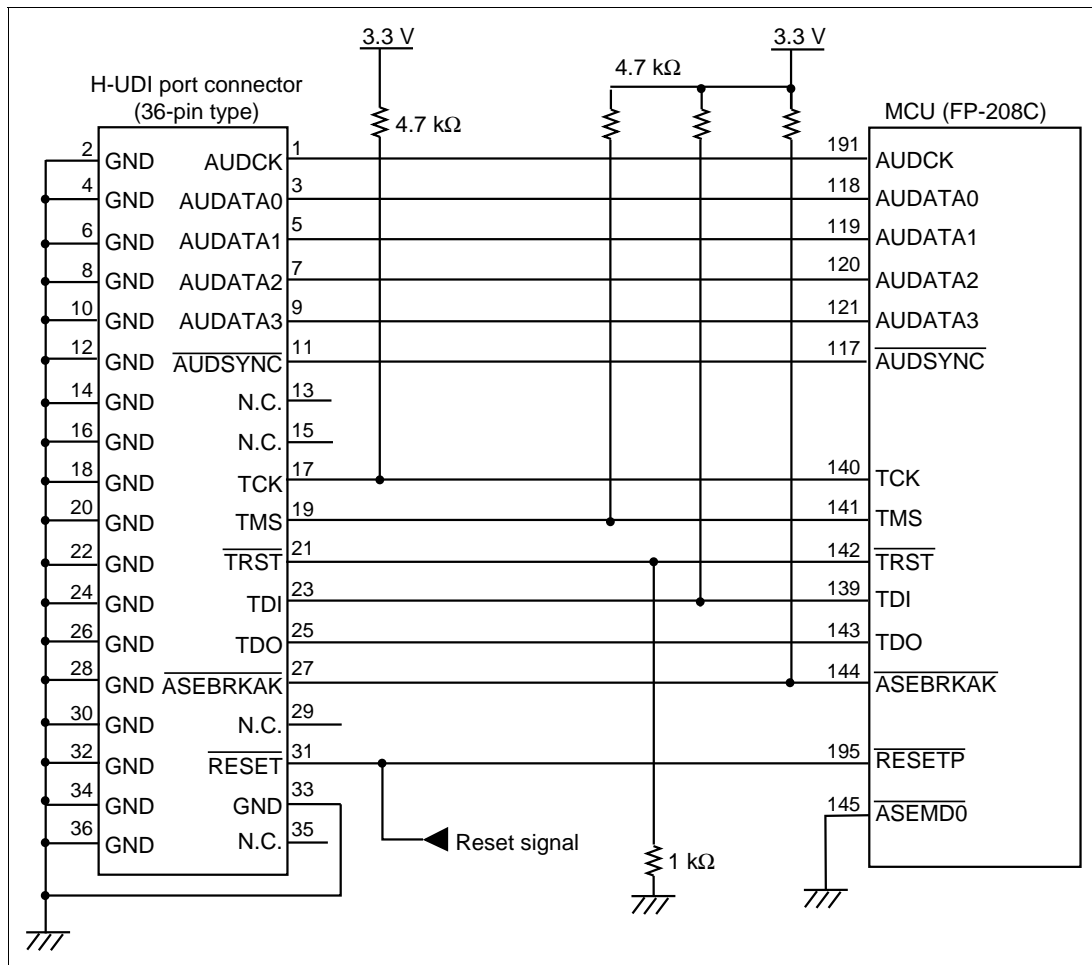

Figure 4.1 Recommended Circuit for Connection between the H-UDI Port Connector and MCU (36-Pin Type)
Figure 4.1 shows a recommended circuit between the H-UDI port connector (36 pins) and the MCU.
- (1) When the emulator is used: /ASEMD0 = low (ASE mode)
- (2) When the emulator is not used: /ASEMD0 = high (normal mode)
6. The resistance values shown in figure 4.1 are recommended.